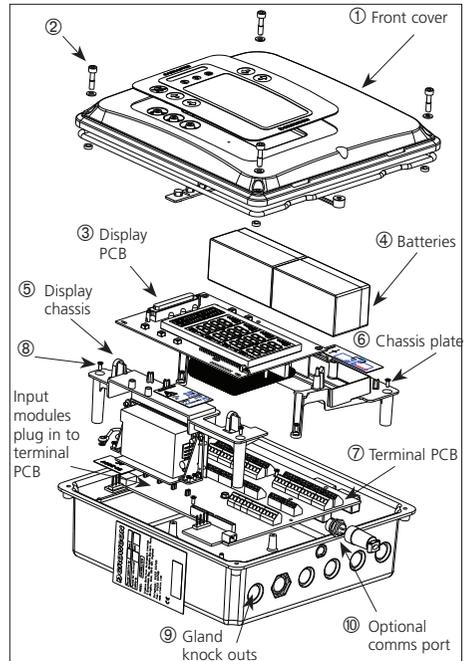
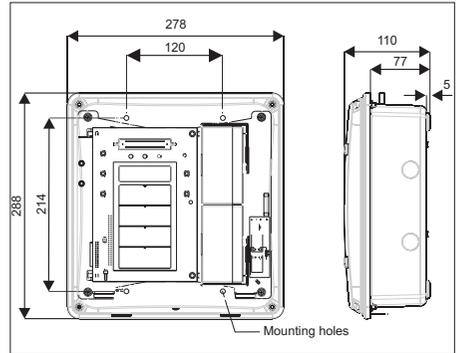

Figure 2.1 Exploded view of Gasmaster
Figure 2.3 Dimensional view of Gasmaster with mounting holes shown
This section describes how to get started with a *Gasmaster 4* or *Gasmaster 1* system that has been pre-configured for the detectors supplied. Figures 2.1, 2.2 and 2.5 show the internal structure of Gasmaster.
Figure 2.1 shows the internal arrangement of a Gasmaster system. The front cover ① is removed by unscrewing the four screws ② and carefully disconnecting the two-pole sounder connector from the display PCB ③. The front cover can either be supported by the case using one of the retaining screws, or removed completely and placed in a safe location. Two separate chassis support the display PCB and batteries which supports the display PCB ③ and batteries ④. The terminal PCB ⑦ contains the input modules, and all of the input and output terminals. The display PCB ③ is connected to the terminal PCB ⑦ via a 50-way ribbon connector, and is hinged on the left side so that it can be moved to provide access to the detector input terminals. Most terminals are accessible once the display PCB is moved and the batteries are removed. If necessary the two chassis can be removed for easier terminal access. In order to remove the display chassis, the display PCB ribbon connector must first be carefully un-plugged. Care should be taken when re-fitting the display
Figure 2.3 provides a dimensional view of Gasmaster. To access the mounting points, first remove the front cover by unscrewing the fixings labelled ② in figure 2.1. Carefully remove the